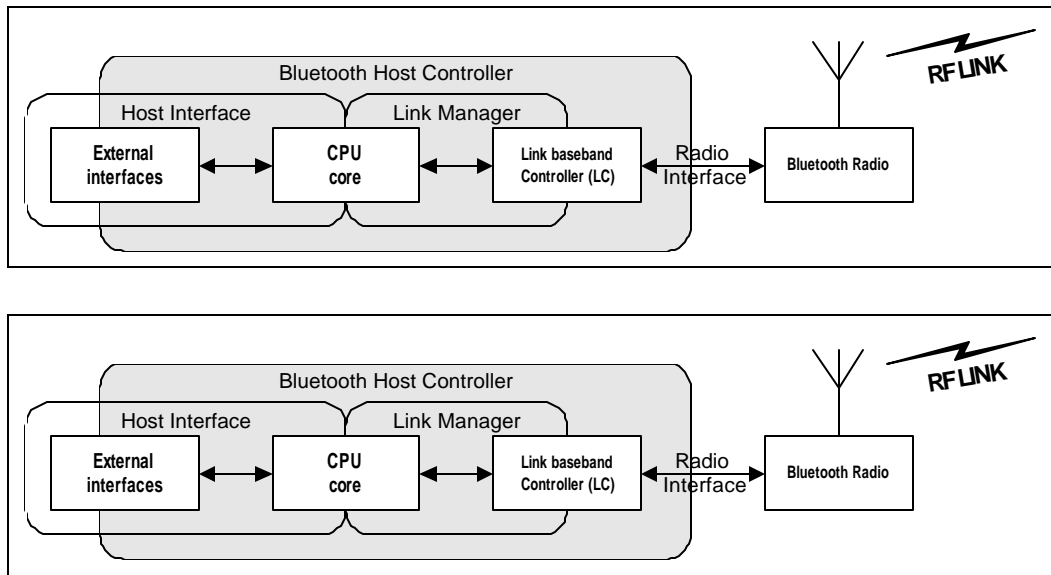

Figure 1.3: Bluetooth Hardware Architecture Overview.
A general overview of the Bluetooth hardware is outlined in Figure 1.3 on page 548. It consists of an analog part – the Bluetooth radio, and a digital part – the Host Controller. The Host Controller has a hardware digital signal processing part – the Link Controller (LC), a CPU core, and it interfaces to the host environment. The hardware and software parts of the Host Controller are described below.